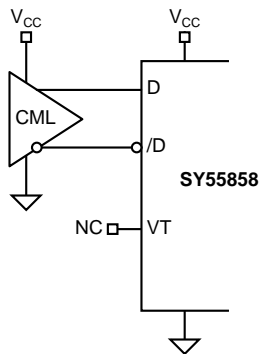

**Figure 3. 50Ω Output Termination**
**Note 4.**  $V_{OUT(SWING)}$  is defined as the swing on one output of a differential pair, that is  $|V_{OH} - V_{OL}|$  on one pin. The swing for common mode immunity purposes is  $2 \times V_{OUT(SWING)}$ . Actual voltage levels and differential swing will depend on customer termination scheme. Typically, a 400mV swing is available in the 50 $\Omega$  environment. Refer to the "CML Output Termination Application" section, Figures 3 and 4, for more details.
**Note 5.** Tested using environment of Figure 3, 50 $\Omega$  equivalent load. AC parameters are guaranteed by design and characterization.
50Ω differential drivers as shown in **Figure 3**.